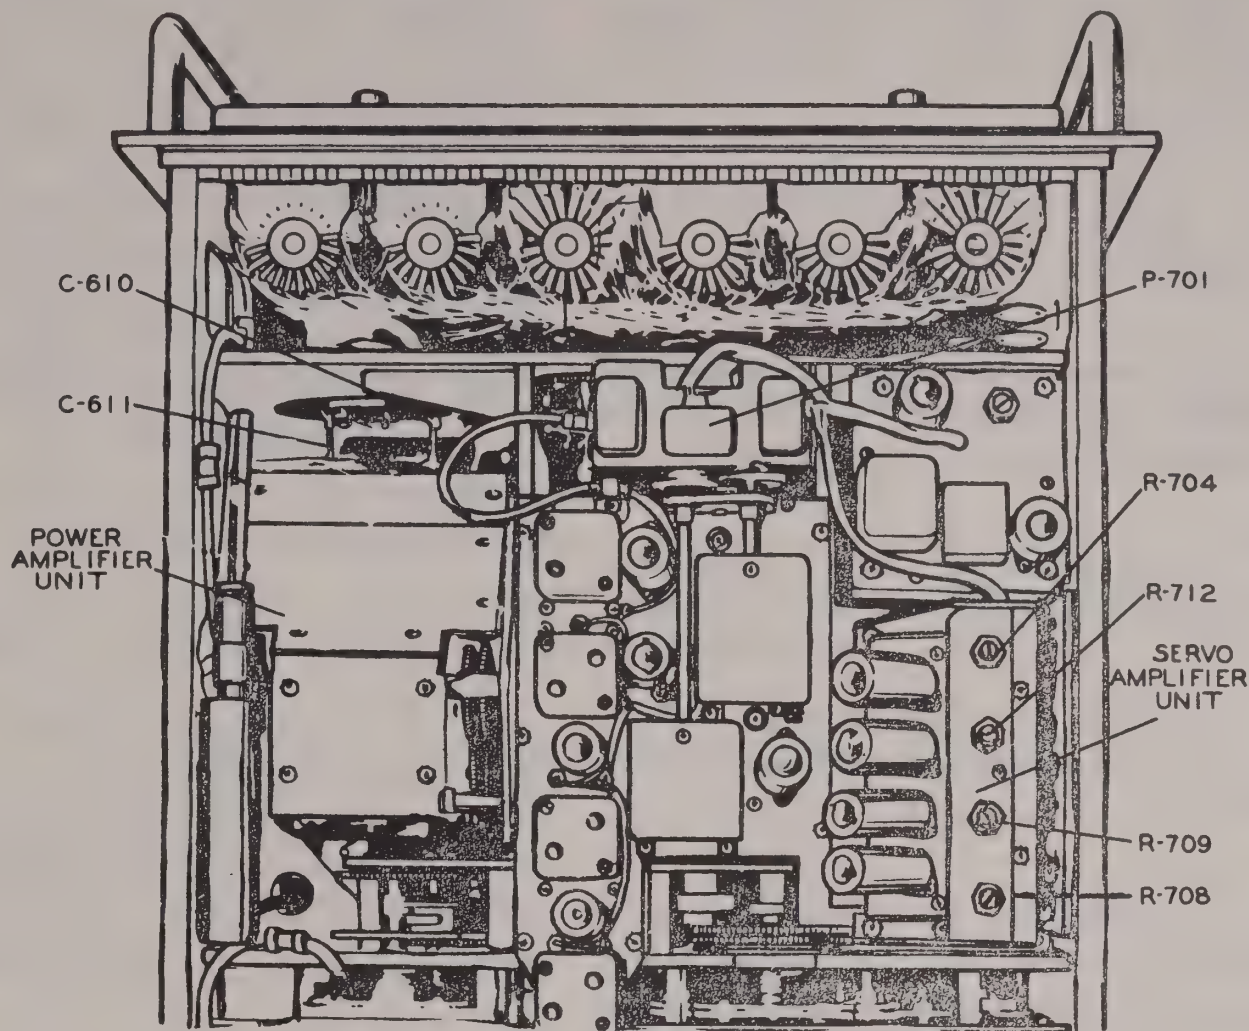

Figure 3-22 Radio Transmitter T-217A/GR, Partial Top View, Cover Removed.
(b) Set resistors R-704, R-708, R-709, and R-712 as described in Table 3-6. See Figure 3-22.
(1) Remove the modulator and the transmitter from the mounting rack, remove the transmitter dust cover, and place both units on a work bench.
(2) Pull the interlock switch on the transmitter to its full outward position.
(3) Connect a power cable from the 115 V POWER connector on the modulator to an a-c outlet.
(4) Connect the cable from the large TRANSMITTER jack on the front of the modulator to the large jack on the transmitter.
(5) Connect the dummy load to the small TRANSMITTER jack on the front of the modulator.
(6) Set the transmitter CHANNEL SELECTOR to 1, the METER SELECTOR switch to the S.W.R. position, and the three numbered CHANNEL switches to 220.0 mc on Channel 1.
(7) Disconnect J-601 and then connect a coaxial cable from the driver output to the OMNI. ANT. jack on the transmitter.
(8) Adjust C-610 and C-611 to within 1/8 inch of the stator plates (about 5 turns out). See Figure 3-22.
(9) Disconnect the Servo Amplifier plug P-701.
(10) Set the VOICE-MCW CARRIER ON switch on the modulator to MCW CARRIER ON.
(11) Manually adjust the gear train for maximum panel meter indication. Set the VOICE-MCW CARRIER ON switch to VOICE.
(12) Loosen the coupler between the Servo gear train and the Power Amplifier gear train. (located on the top left side of the P.A. Unit).
(13) Reconnect the Servo Amplifier plug P-701, and allow the system to reposition. Tighten the coupler.
(14) Set the three numbered CHANNEL switches to 399.9 mc, set the VOICE-MCW CARRIER ON switch to MCW CARRIER ON, and adjust C-611 for a maximum panel meter indication. Record reading.
(15) Set the VOICE-MCW CARRIER ON switch to VOICE and set the three numbered CHANNEL switches to 220.2 mc.
(16) Set the VOICE-MCW CARRIER ON switch to MCW CARRIER ON and observe panel meter reading. If it is not the same as before, adjust C-610 and C-611 for a maximum reading.